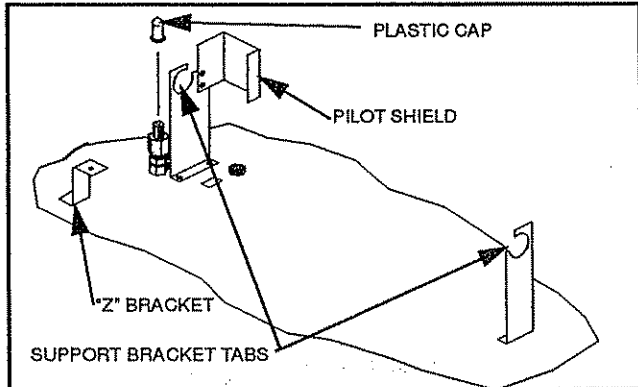

Fig. 32. Location of pilot shield, support bracket tabs and "Z" bracket.
1). If you have a plastic cap over the orifice remove it before installing the burner assembly and grate. Bend left and right burner support tabs out so burner can be installed. (See Fig. 32.)
4). Bend left and right burner support tabs over burner tube and fasten burner to burner support "Z" bracket with screw. (See Fig. 32 & 33.)